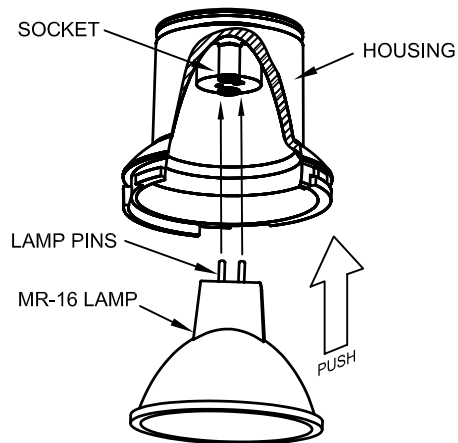

FIG. 5
4. To replace the lamp, insert the LAMP PINS into the SOCKET HOLES (See Fig. 5).